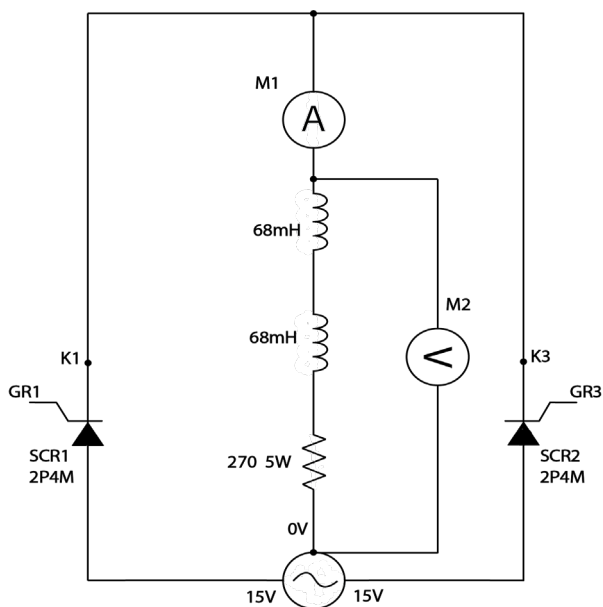

Figure 28
1. Connect the circuit as shown in Figure 28.
6. Connect circuit as shown in Figure 28.